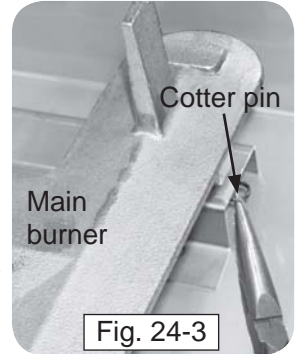

Fig. 24-3
3. Remove the cotter pin from the left or right rear burner anchoring peg by pulling it straight out of the cotter pin hole using fingers or needle-nose pliers (Fig. 24-3).